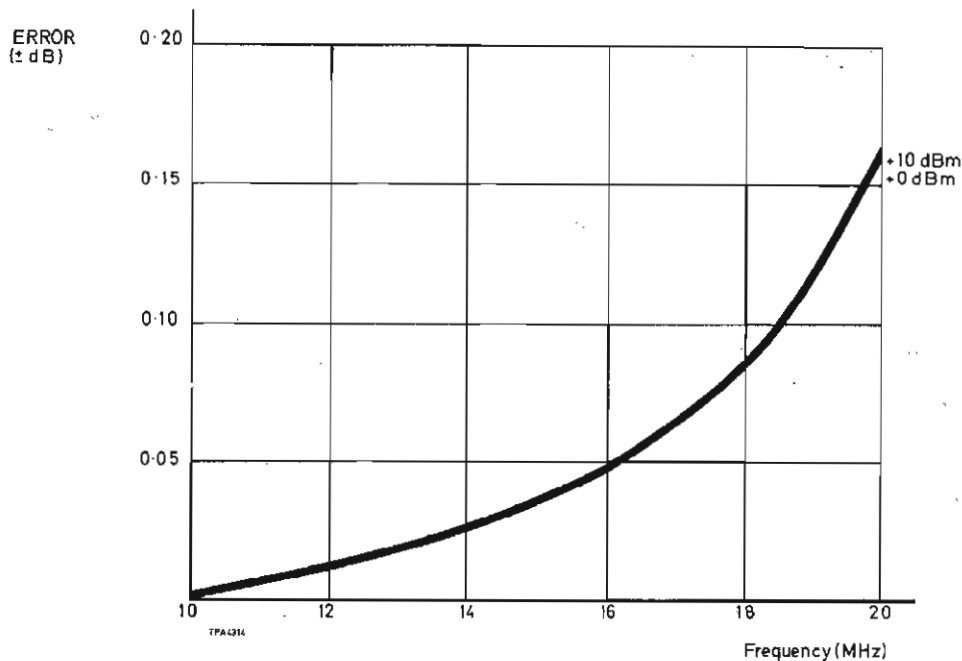

Fig. 6 Errors in calibration during synchronous operation (if the input is not disconnected while calibrating)
38. All frequency setting modes are transferred to TF 2357A Selective Level Meter by connection of two 50 Ω coaxial cables between sender and receiver. Connect 30-50 MHz IN socket on TF 2356 to 30-50 MHz OUT socket on TF 2357A. Connect 10 MHz STD - EXT IN socket on TF 2356 to 10 MHz STD - INT OUT on TF 2357A. Establishing these connections automatically disables all frequency setting controls as well as blanking FREQUENCY display on the sender. Sender now operates synchronously with, and on command from, the receiver. Output is not suppressed during frequency changes for this method of operation. Performance may be degraded at high frequencies and at input levels above -10 dBm (see Fig. 6).